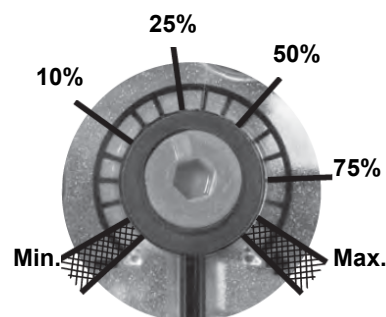

Fig. 5
3. Screw VD on with 2 M5 screws for each, max. 5 Nm/44 in.-lb., fig. 5/6.